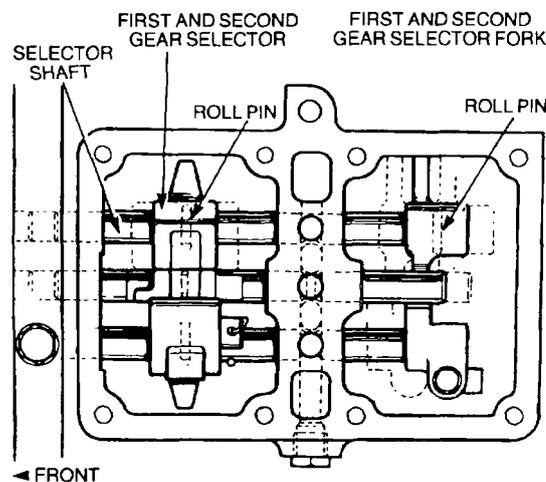

Figure 180 Installing the First and Second Gear Selector and Selector Fork
- kkk. Position the first and second gear selector in the transmission and install the first and second gear selector shaft, engaging the selector and selector fork as the shaft is pushed in fully (Figure 180). Secure the first and second gear selector fork with a new roll-pin. Secure the first and second gear selector with a new roll-pin (Figure 180).